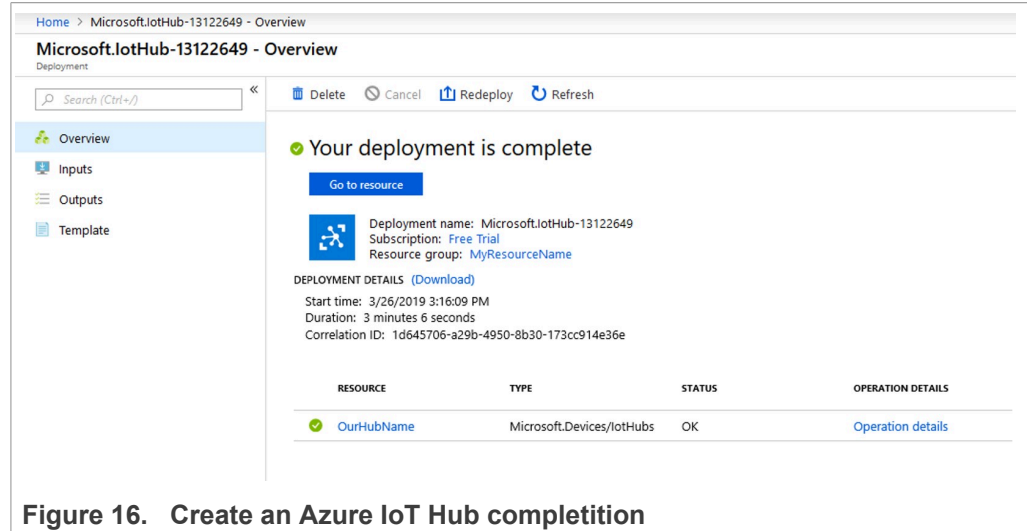

Figure 16. Create an Azure IoT Hub completion
- When the Azure IoT Hub instance is deployed, you can see the deployment details and go to the recently created Azure IoT Hub resource as shown in Figure 16: